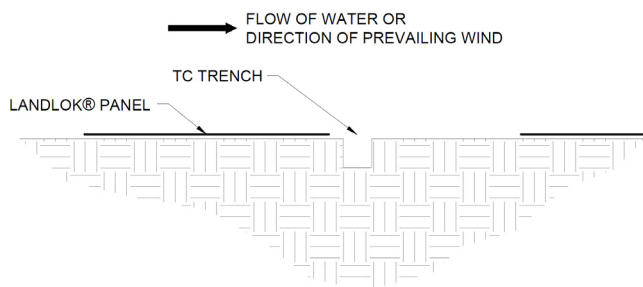
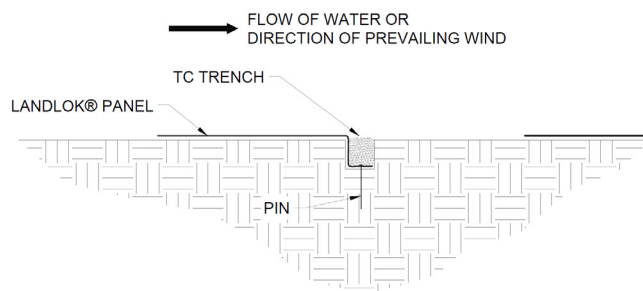

Figure 18: Terminal Channel (TC) Trench Alignment
Figure 19: Terminal Channel (TC) Trench Placement
14. Lay the last TRM panel on the upstream side of the TC trench (Figure 18). Place the panel edge in the TC trench, ensuring full coverage along the bottom of the entire TC trench with the **PROPEX** Landlok TRM (Figure 19).
15. Secure **PROPEX** Landlok TRM with pins in the TC trench. Suggested placement of pins for the TC trench is along the bottom of the trench with pins on 12 in (300 mm) centers (Figure 19).
16. Backfill and compact the TC trench (Figure 19).